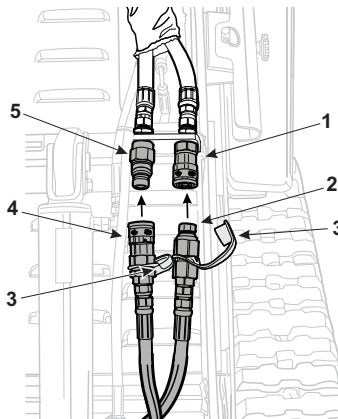

Figure 3-36 Auxiliary Hydraulic Quick Connects
- b. Remove the protective covers (Items 3, **Figure 3-36**) from the attachment quick connectors.
- c. Wipe off the end of each of the connectors (Items 1, 2, 4, 5, **Figure 3-36**) to remove any dirt or debris.
- d. Insert the attachments' male coupling (Item 2, **Figure 3-36**) into the female bulkhead